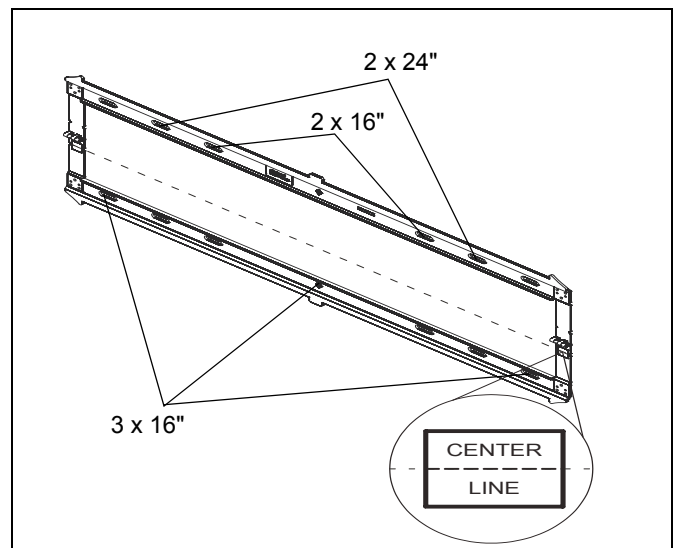

Figure 3
**NOTE:** The RMT2 must be installed on two 16" studs. The RLT2 can be installed on 16" studs (inner holes) or 24" studs (outer holes). For the RXT2, it can be mounted over two or three 16" studs or two 24" studs. If mounting to three 16" studs, it must be mounted to all three studs using the outer holes and center holes. (See Figure 3) All studs must be 2"x4".
**NOTE:** The vertical center of the wall plate is labeled as the center directly below each hinge. Keep this in mind when determining mounting location. (See Figure 3)